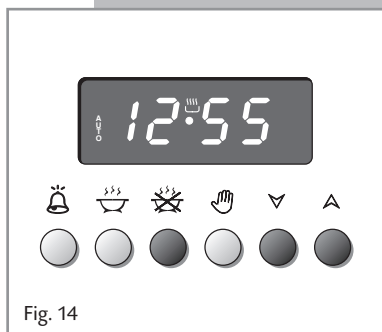

Fig. 14
2. Set the time you need the food to stop cooking by pushing the  button and the  button to advance, or  to go backwards if you have passed the desired time (Fig. 14).